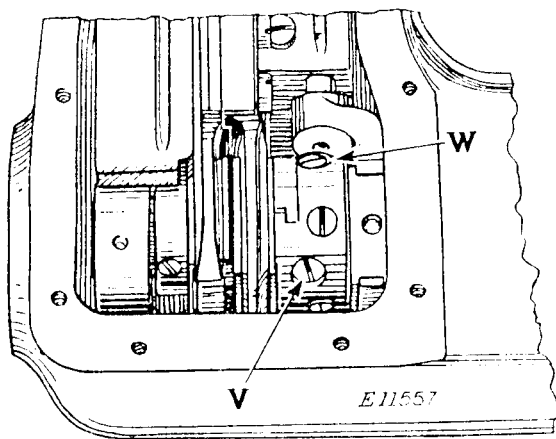

Fig. 14
the front of the bed cover. First turn the machine pulley to bring the lock screw (V, Fig. 14) underneath the hole, and loosen this lock screw. Then turn the large screw (W) which projects beyond the body of the eccentric, to the left or outward for a longer stitch, or to the right for a shorter stitch. Tighten the lock screw (V) and replace the screw plug.